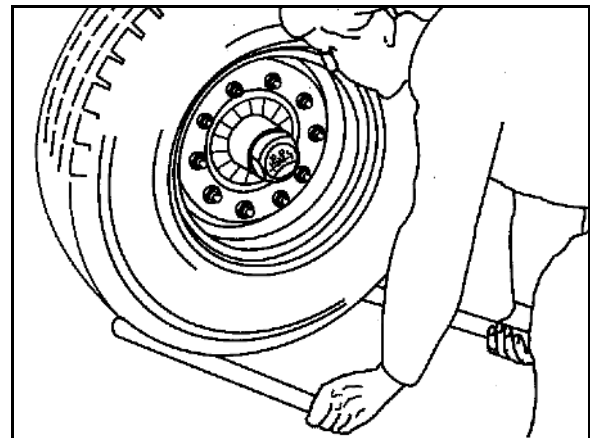

Fig. 115
1. To check the play on wheel hub bearings, raise the axle until the wheels turn freely (Fig. 115).